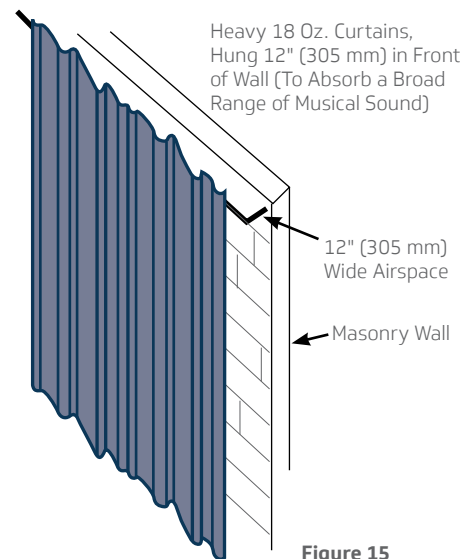

Figure 15
- Heavy curtains can also provide acoustic absorption when properly applied. Use 18 oz. velour curtains hung at 100% fullness, about 12" (305 mm) in front of a reflecting wall. This trapped air space is critical to enhancing the low-frequency absorption effect of the curtain (figure 15).